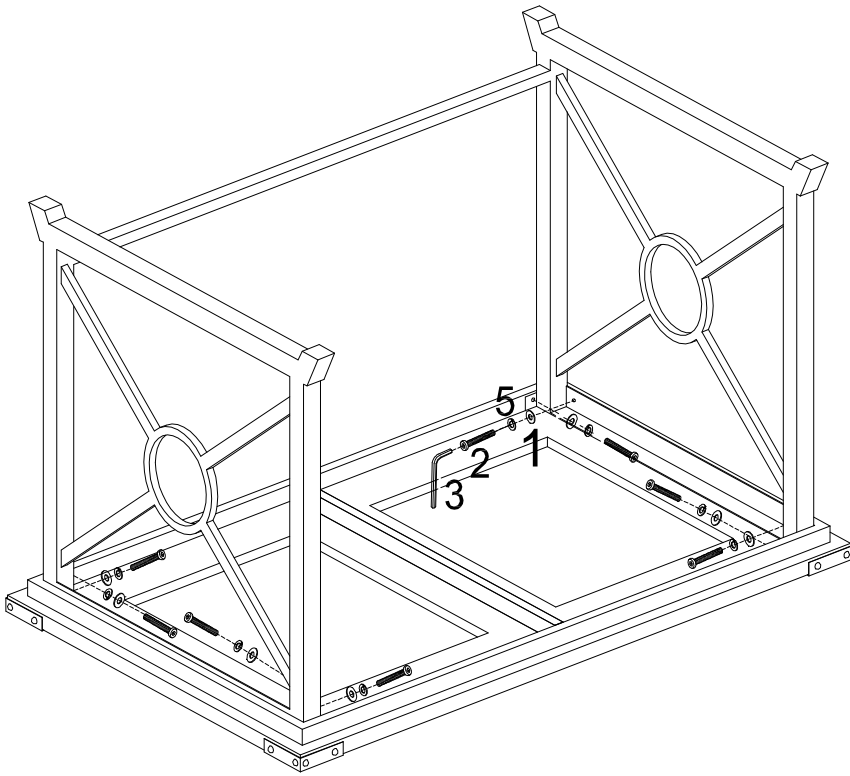

Figure 3
Insert bolts (2) through spring washers (5) and flat washers (1) to connect Anti-Slip Hinge (4) to assembled unit from figure 3 as shown.